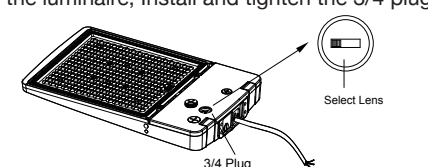

Figure 35
4. Select Lens Select Lens (Figure 35)